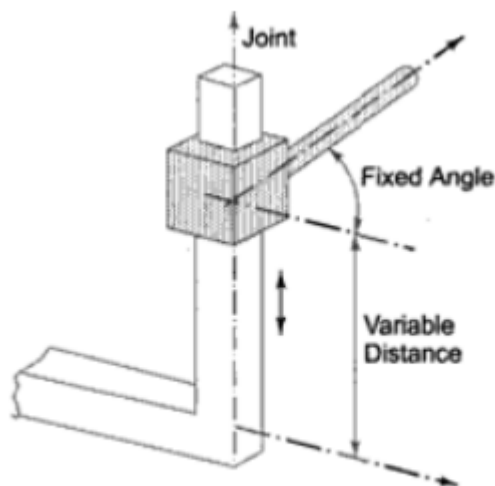

Fig. 1.7 Prismatic pair (P)
- The prismatic pair (P) as shown in Figure 1.7